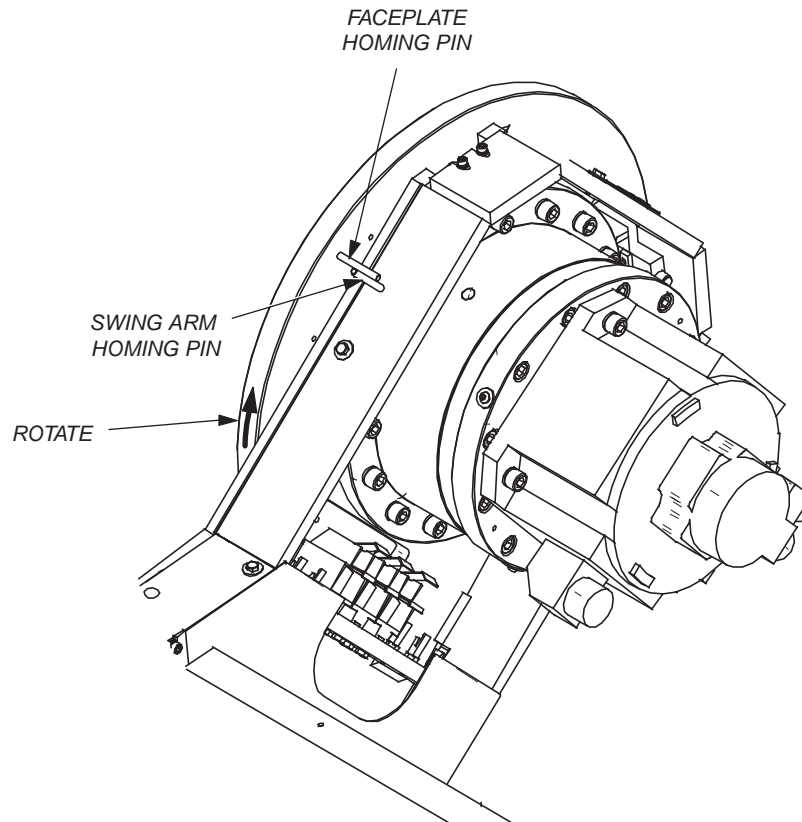

Figure 8 Home Position
2. Place the programming pendant in TEACH MODE and jog the faceplate **slowly** until the homing hole in the face plate is aligned with the homing pin hole in the swing arm (see Figure 8).
4. Slowly jog the drive assembly until the plastic pins just touch each other (see Figure 8). If you go too far, the pins will bend. Slowly jog the faceplate in reverse rotation until the pins return to a straight position.